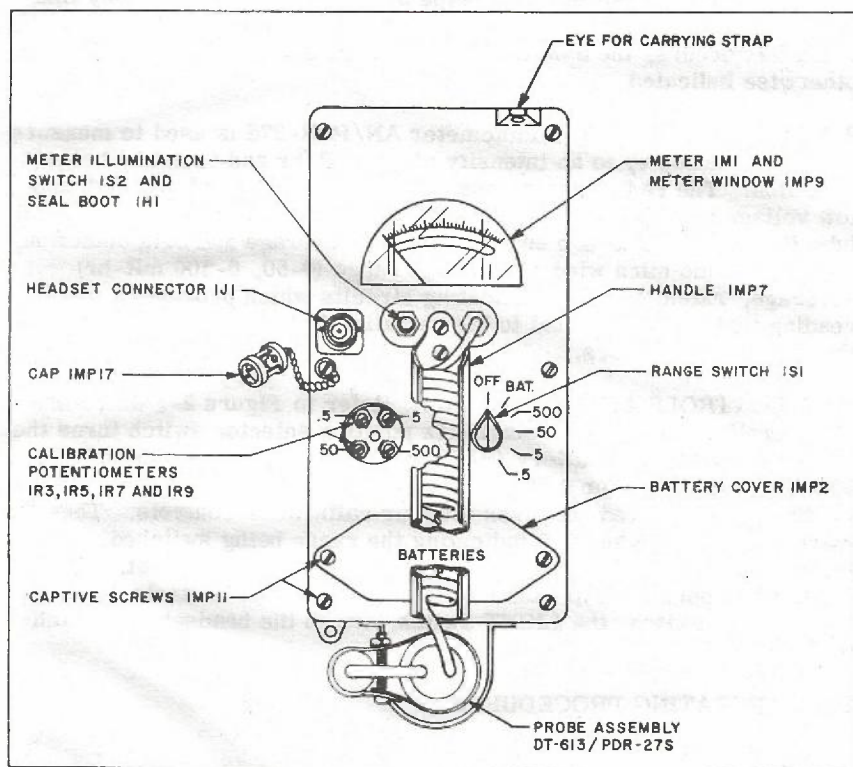

Figure 2-1. Radiacmeter IM-238/PDR-27S
d. **HEADSET H-43B/U.** The headset provides the operator with aural indications of radiation intensity when plugged into the jack on the panel (figure 2-1). The headset is designed to fit inside a battle helmet.
e. **HARNESSES P/N A41973-1.** The shoulder harness, an adjustable strap made of non-absorbent plastic, is used for carrying the radiacmeter during operation. Clip fasteners on each end of the strap snap into holes in small projections on the radiacmeter panel (figure 2-1).
2-2. CONTROLS AND INDICATORS. Refer to Figure 2-1 which shows the operating controls. A single six position selector switch turns the unit on, provides for battery (BAT) check and selects the 500 mR/hr, 50 mR/hr, 5 mR/hr or 0.5 mR/hr range. There is a screw cover which, when removed, exposes the four calibration controls. These are marked 500, 50, 5 and 0.5 indicating the range being switched. Also located on the top panel is the BNC connector for the headset. The operator is permitted to handle only the operational controls; namely, the selector switch, the LIGHT switch, attach the headset and attach the carrying strap.